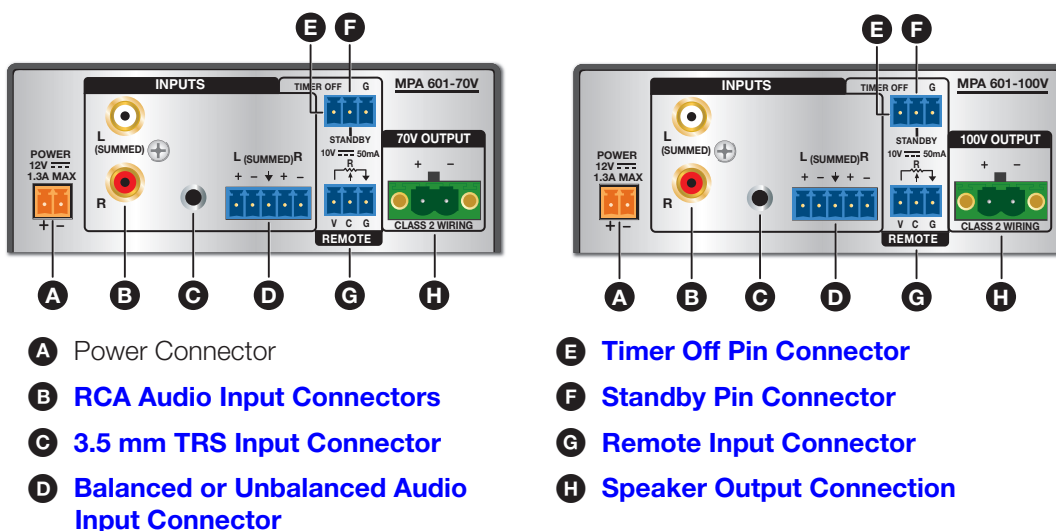
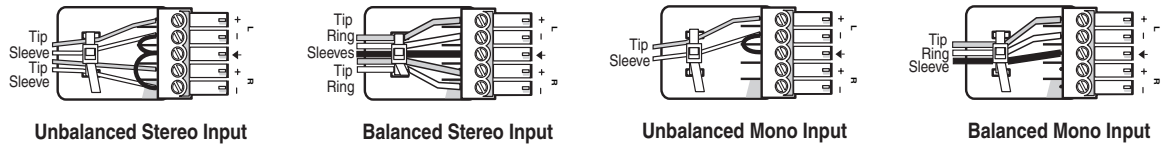

Figure 2. MPA 601-70V and MPA 601-100V Rear Panel Connections
Figure 6. Audio Input Connector Wiring Example
B RCA Audio Input Connectors — These connectors (see figure 2 on page 5) accept unbalanced, line level audio signal. The input can be stereo, using two RCA connectors, or mono, using a single RCA connector plugged into the left (summed) connector.
C 3.5 mm TRS Input Connector — This connector (see figure 2 on page 5) accepts unbalanced, line level audio signal through a 3.5 mm tip ring sleeve (TRS) connector.
- D Balanced or Unbalanced Audio Input Connector** — This 5-pole 3.5 mm captive screw connector (see figure 2 on page 5) accepts line level, balanced or unbalanced, mono or stereo audio signal. Figure 6 below shows connector wiring for the appropriate input type.
- G Remote Input Connector** — This 3-pole captive screw connector (see figure 2 on page 5) allows a wall-mounted audio controller to control volume and mute remotely (for more information on operating a remote controller see Remote Control Operation on page 11).
- H Speaker Output Connector** — This 2-pole 5 mm screw-lock captive screw connector (see figure 2 on page 5) is used to connect speakers to the amplifier. The MPA 601-70V provides up to 60W for a 70V distributed sound system, while the MPA 601-100V provides up to 60W for a 100V distributed sound system.